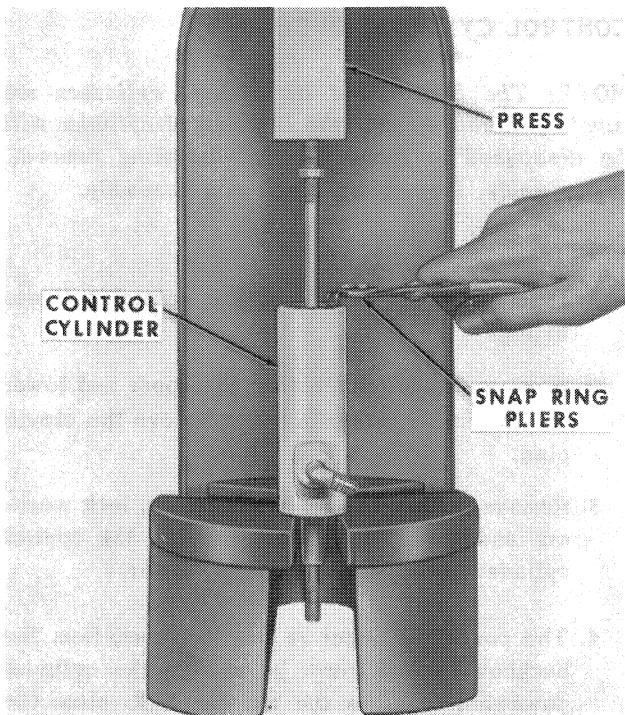

Figure 17
2. Using a manual or hydraulic press as shown in Figure 17, compress the internal cylinder spring slightly to relieve the pressure on the lower snap ring. Then, remove the snap ring with a suitable pair of pliers.
5. Install the internal spring and the lower rod into the cylinder. Then, compress the spring, Figure 17, and secure the assembly with a snap-ring.